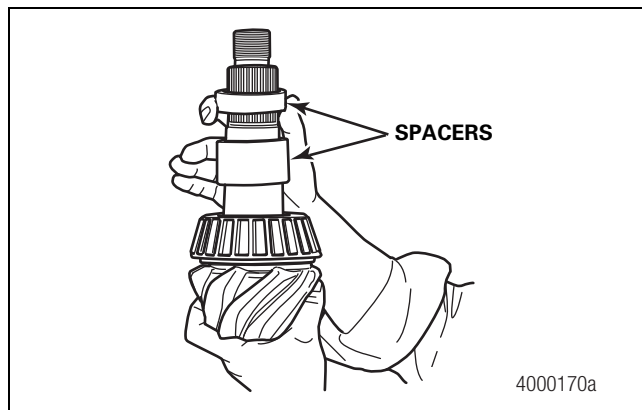

Figure 3.24
10. Remove the bearing spacer and variable spacer from the pinion shaft. Figure 3.24.